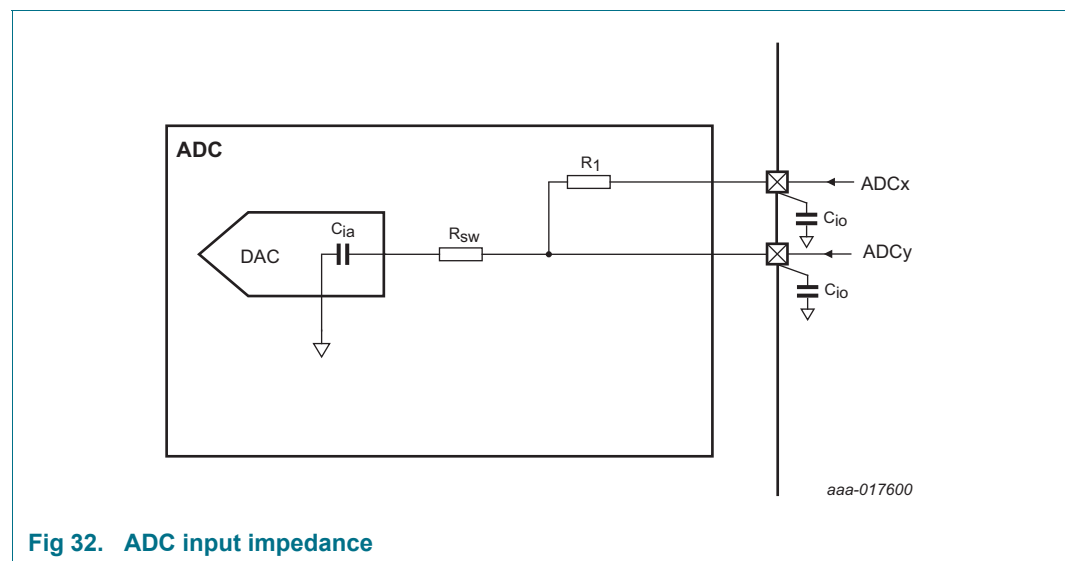

Fig 32. ADC input impedance
- [5] The differential linearity error (E_D) is the difference between the actual step width and the ideal step width. See Figure 32.
- [6] The integral non-linearity ($E_{L(adj)}$) is the peak difference between the center of the steps of the actual and the ideal transfer curve after appropriate adjustment of gain and offset errors. See Figure 32.
- [7] The offset error (E_O) is the absolute difference between the straight line which fits the actual curve and the straight line which fits the ideal curve. See Figure 32.
- [8] The full-scale error voltage or gain error (E_G) is the difference between the straight line fitting the actual transfer curve after removing offset error, and the straight line which fits the ideal transfer curve. See Figure 32.
Figure 32 shows the ADC input impedance. In this figure: